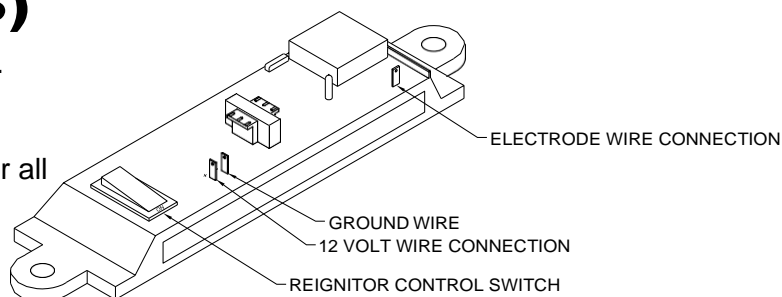

Figure 12
- B. Make 12 volt D.C. connections to re-ignitor as illustrated in Figure 12.